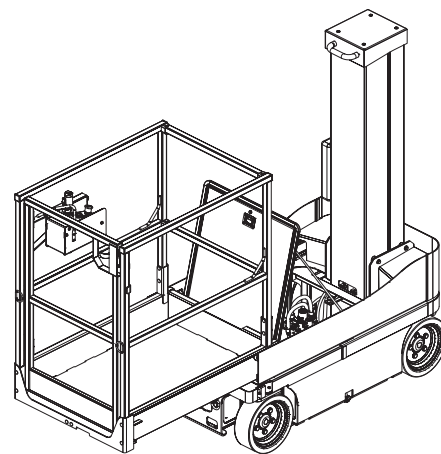

Figure 5-5. Accessing Hydraulic/Electrical Compartment
9. Traverse the platform to maintenance position and access the hydraulic/electrical compartment (see Figure 5-5).